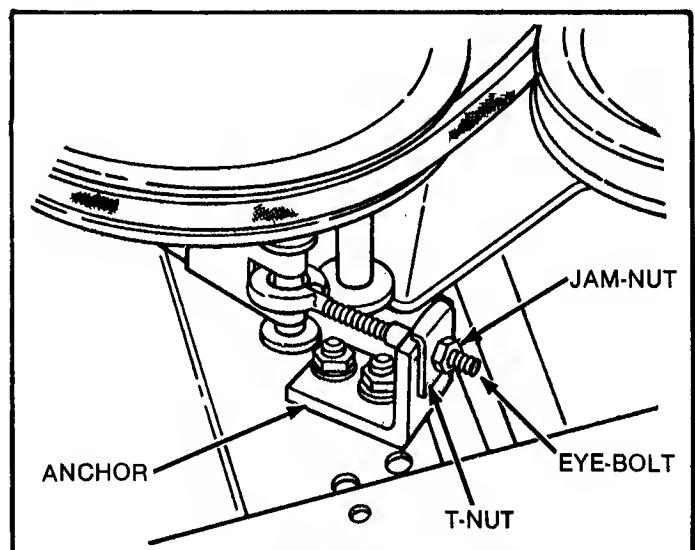

FIG. 9 — BLADE BRAKE ADJUSTMENT
The blade brake compensates for wear. As the brake band wears, the blade control lever will gradually stop further rearward in the slot of the cover. Brake adjustment is required when the lever touches the rear of slot or when the blade takes more than 3 seconds to stop. A 7/16" wrench is needed for this procedure. The adjusting point is shown in figure 9. The adjustment is made with the engine stopped as follows.
STEP 2: While holding the blade lever firmly in the rearward position, loosen the jam-nut on the end of the eye bolt (figure 9).